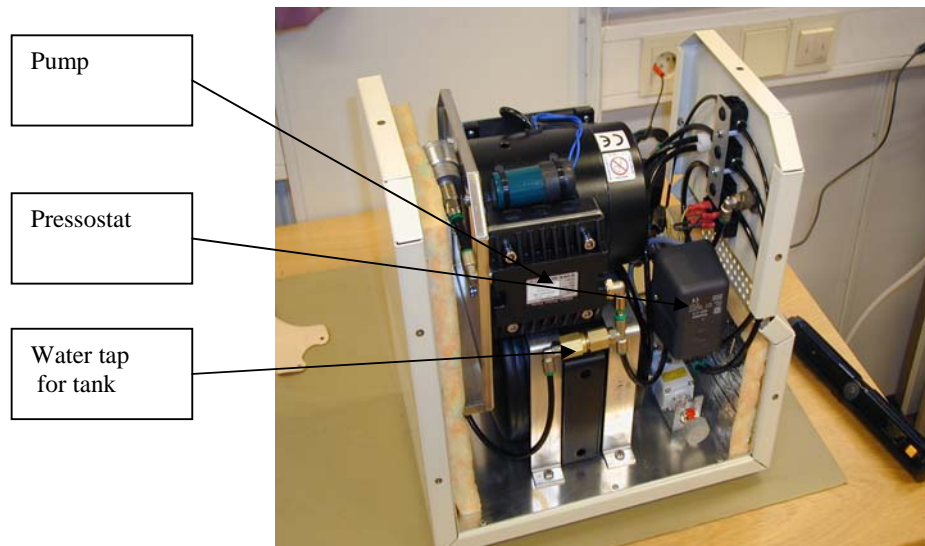

Fig. 1
- Exchange filter on the compressor air silencer (**Fig.1**). Part number: 500 510.